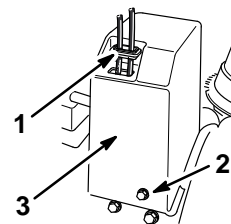

Figure 5
4. Remove the three screws securing the belt cover to the engine base and slide the cover up the cables (Fig. 5). Do not lose the cable cover.
- Install the belt cover with three screws previously removed (Fig. 5). Ensure that the cable cover is plugged into the belt cover.